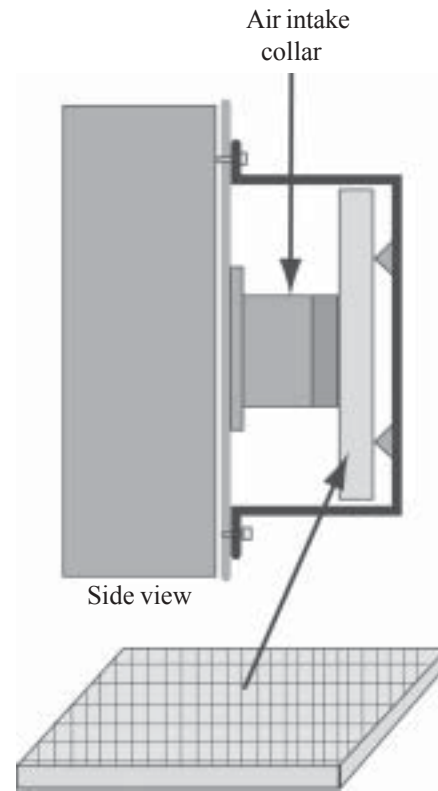

Fig. 3 Filter
14. Install filter under filter box on top of air intake. See **Fig. 3**.